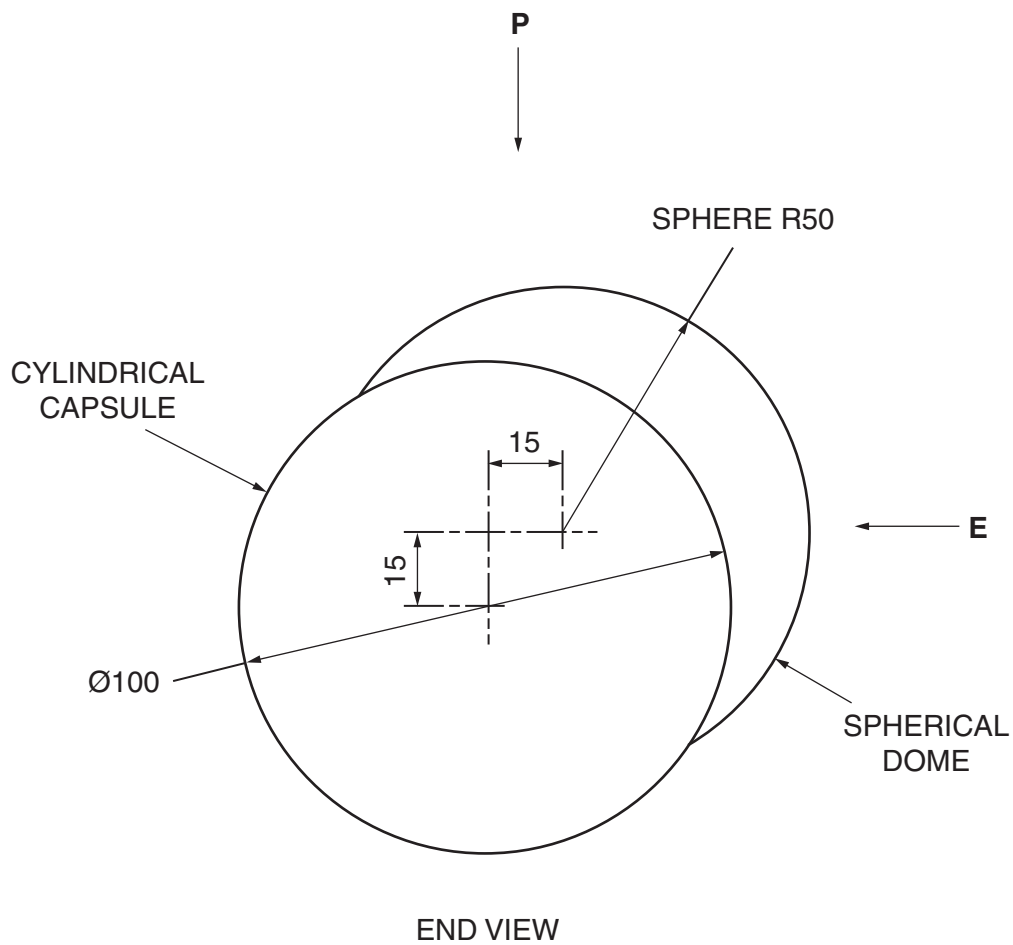

Fig. 7
- 7 Fig. 7 shows the scaled details of a right cylindrical capsule and a spherical observation dome.